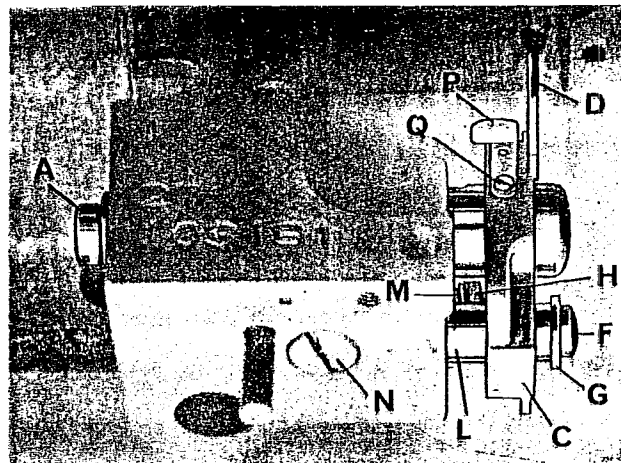

fig. 13
SETTING LOWER TRIMMER KNIVES (fig. 13)
SETTING UPPER TRIMMER KNIFE (fig. 13 a)
- Turn handwheel clockwise until upper knife holder block 'A' is in its lowest position. Slide upper knife 'C' against lower knife 'D' (fig. 13) and check to see that cutting edge of top knife overlaps 1/16 inch the cutting edge of the bottom knife. If adjustment is required, move upper knife holder block 'A' left or right until the conditions described above, are obtained.
- Loosen screw 'N' (fig. 13).
- Set needle guard 'P' for chain stitch needle, on knife holder and slightly tighten it with screw 'Q' (fig. 13).